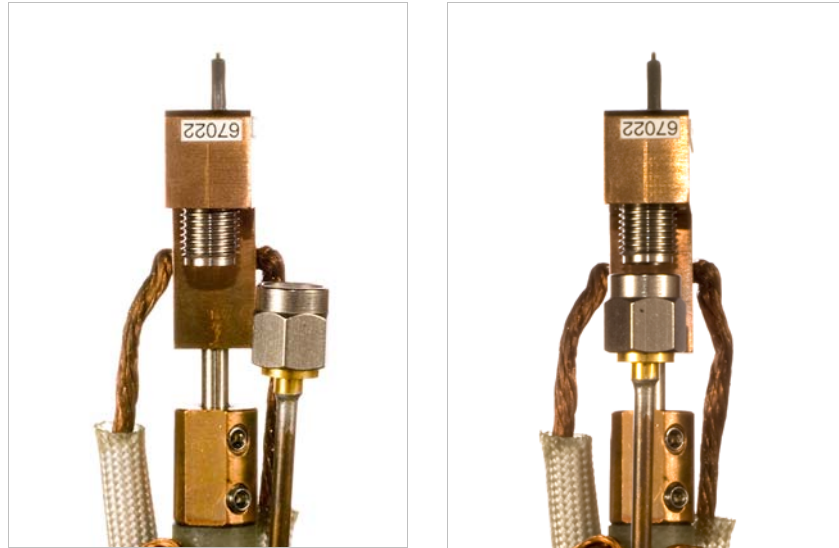

FIGURE 3-37 Left: Misaligned probe; Right: A properly aligned probe
- As you slide the microwave dowel onto the probe arm, note the relative height of the microwave connector socket on the probe and the microwave connector plug on the semirigid cable. If the relative heights of the two connectors do not match, the semirigid cable can be gently bent using the thumb and forefinger to align the connector plug with the height of the connector socket (FIGURE 3-37).